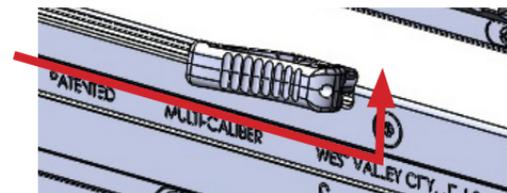

Fig. a-3
- Gripping the charging handle (right or left side), press down and pull to the rear of the charging channel, then lock it to the rear by lifting the charging handle upwards into the locking cutout and releasing it. The charging handle should remain in the locking cutout. (Fig. a-3)